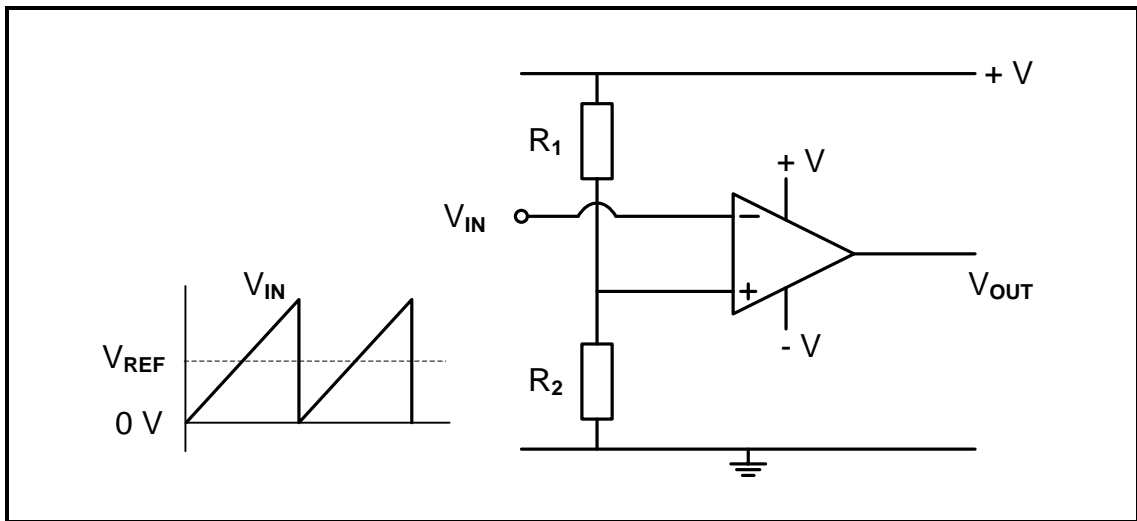

FIGURE 2.6: OP-AMP CIRCUIT
2.6 Refer to FIGURE 2.6 below and answer the questions that follow.
2.6.1 Identify the op-amp circuit in FIGURE 2.6. (2)